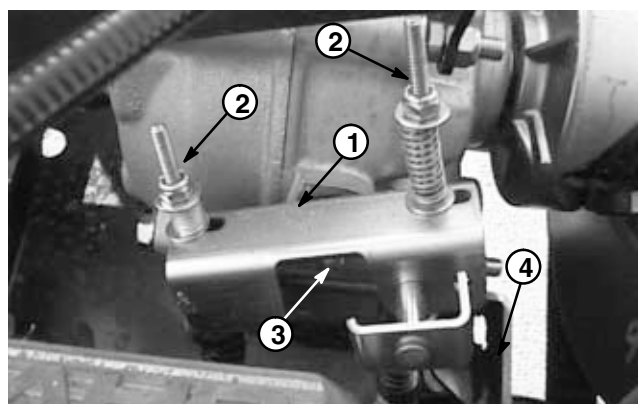

Figure 22
6. Remove lock nut securing the select lever assembly to the selector shaft. Loosen jam nuts securing both shift cables to the cable bracket. Separate select lever assembly and shift cables from the transaxle (Fig. 22).
5. Position select lever assembly and shift cables to the transaxle. Secure select lever assembly to the selector shaft with lock nut. Secure both shift cables to the cable bracket with jam nuts (Fig. 22).